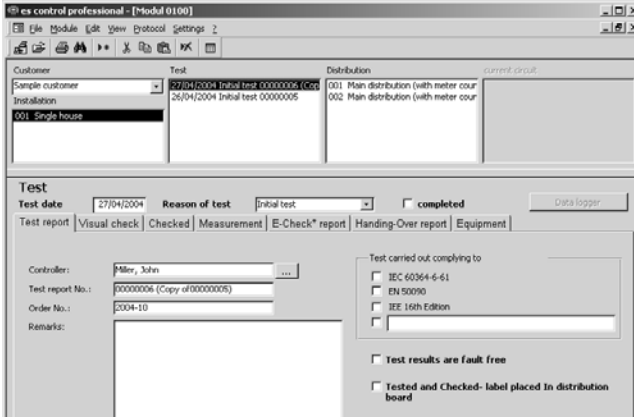

Figure 5.27: Duplicate data record for distribution
- ▶ Select the “Duplicate” function from the “Data record” menu. A copy of the previously selected data record is made. The example below shows the creation of a new distribution “Main distribution (with meter counter) (copy)”. Please refer to Figure 5.27. All subordinate current circuits are also copied.